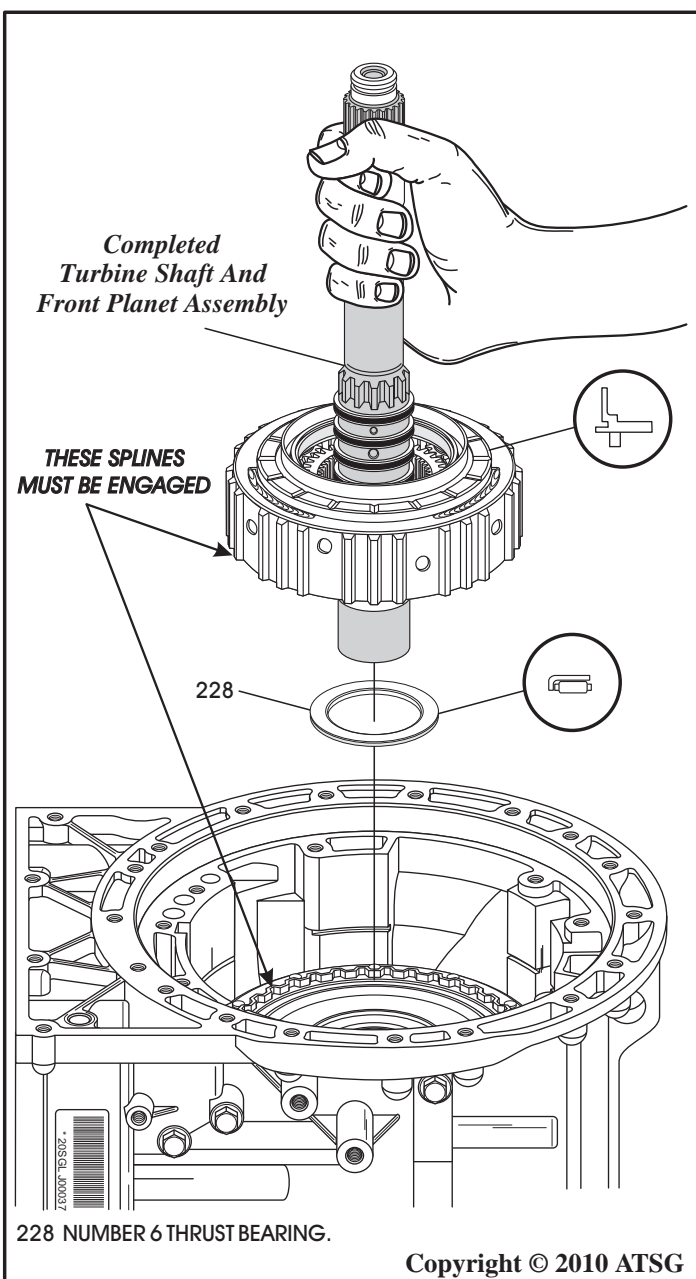

Figure 214
31. Ensure the number 6 thrust bearing is still stuck to back of the completed turbine shaft and front planetary assembly, as shown in Figure 214.
32. Install the completed turbine shaft and front planetary, as shown in Figure 214.
Note: Splines of the front carrier must engage into K1 clutch housing (See Figure 214).